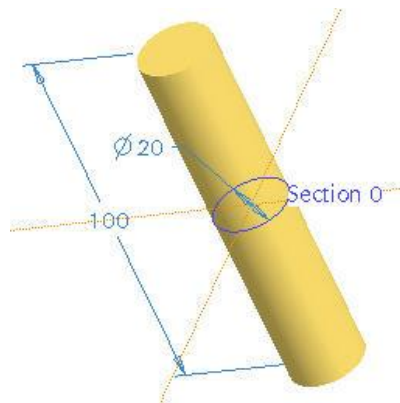

Figure 1 – The Bar part
- Before starting to learn the analysis process, you need to model the very simple part shown Figure 1. Setup the template to **en\_mmns\_part\_solid** and the **~\TP2\Part1\Bar** as working directory.